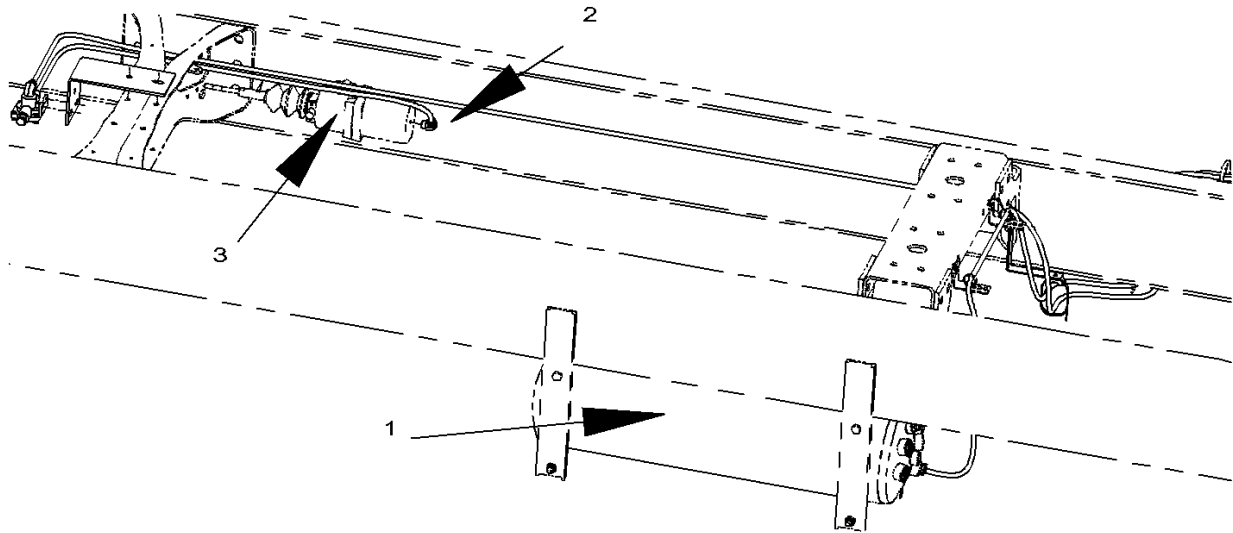

Figure 9 Air Brake Overview
2. Disconnect air line from the spring chamber (Item 3, Figure 9).